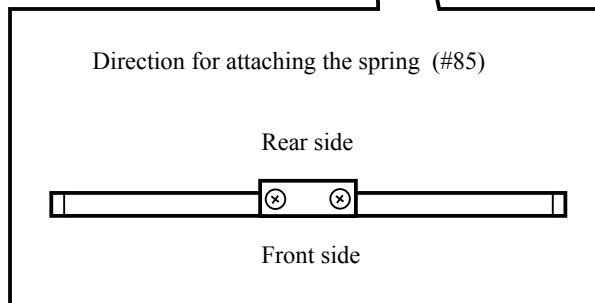

Fig.2
- Attach the spring (#85) with 2 screws (#79). (ref. Fig.2)